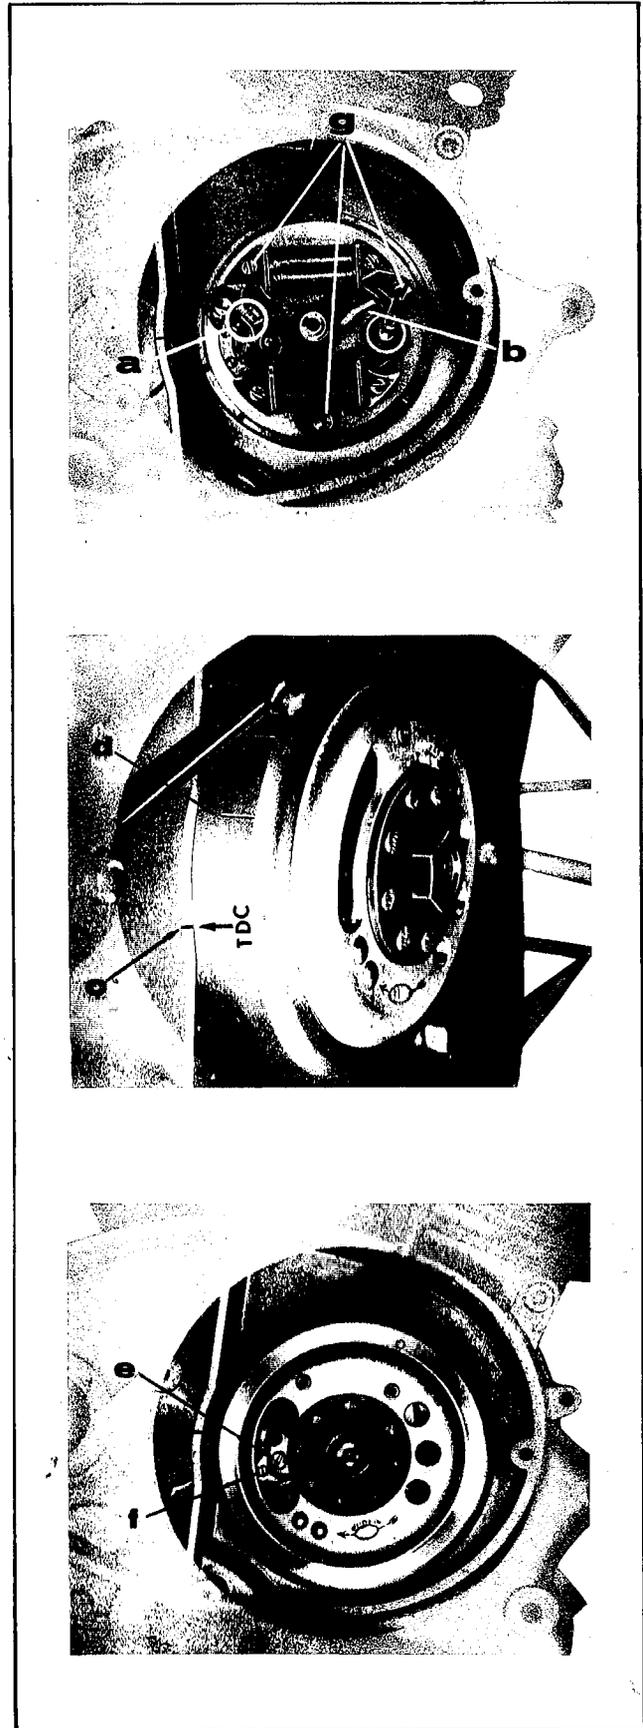

Fig. 21
5. Contact breaker adjustment (see fig. 21).
Checking of ignition timing (see fig. 21)